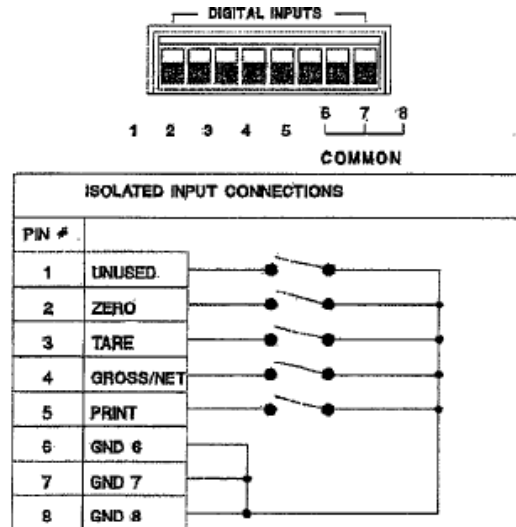

Figure 2.10. Remote Digital Inputs.
Certain front panel key functions can be initiated remotely using the rear panel digital inputs. Figure 2-10 gives wiring designations for remote operation of the ZERO, TARE, Gross/Net (GN), and PRINT keys. Interconnecting wire/cable length should not exceed 50 feet. Route wires/cable away from ac power lines and other EMI sources to prevent interference.